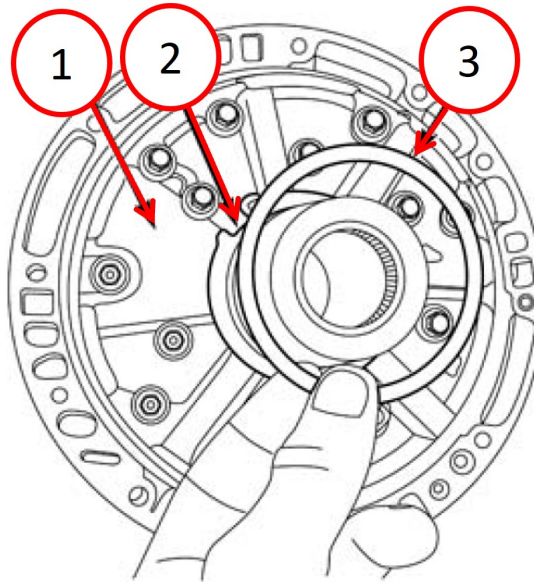

Fig. 14
23. Lubricate with trans jel or petroleum jelly and install the nylon thrust washer onto the oil pump (Fig. 14) .
NOTE: The nylon thrust washer is keyed to the oil pump (Fig. 14) .